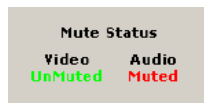

Figure 5-17 — Mute status indications
- Click the **Mute** or **UnMute** button to mute or unmute the selected output, or click the **Mute All** or **UnMute All** to mute or unmute all of the outputs. Observe the mute status indications on the page (figure 5-17). Unmuted is displayed in green and muted is displayed in red.